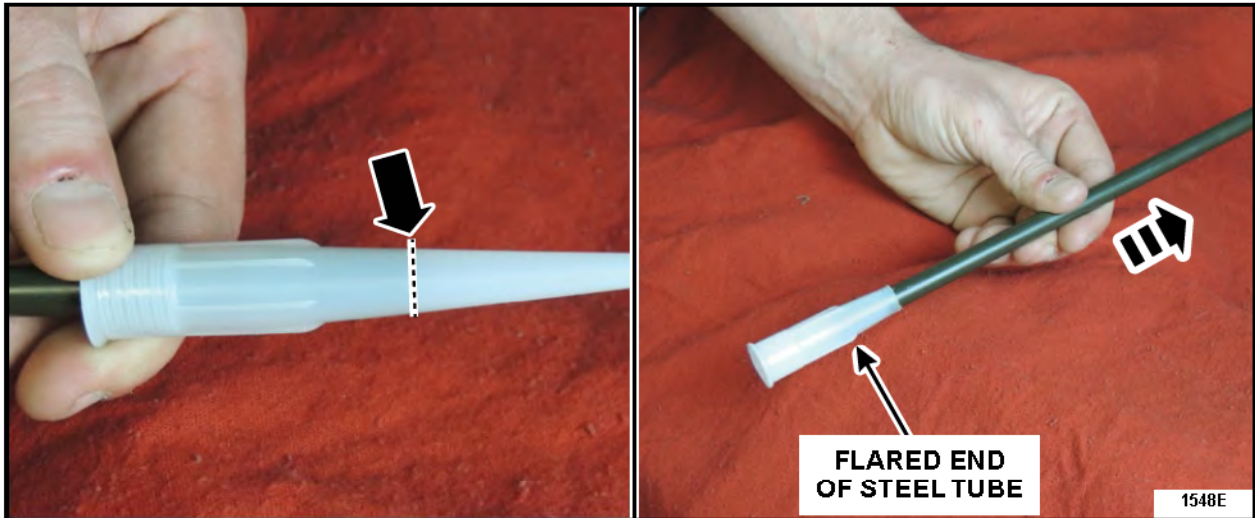

FIGURE 7
NOTE: Use Motorcraft urethane sealer TA-2-B and an application nozzle fabricated from 3/8" O.D. x 11" flared steel tubing to seal gaps in sheet metal. See Figure 7.
1. Attach the fabricated nozzle to a tube of Motorcraft TA-2-B or equivalent seam sealer. See Figure 7.